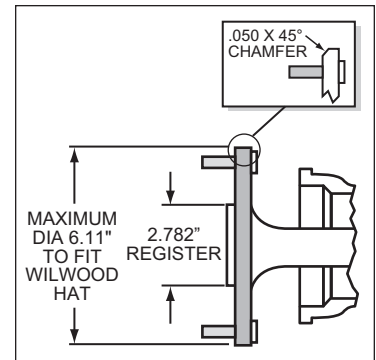

Figure 3. Axle Flange Maximum Dimension
- Maximum axle flange diameter must be no larger than 6.61" w/.050" x 45° chamfer (see Figure 3, next page).